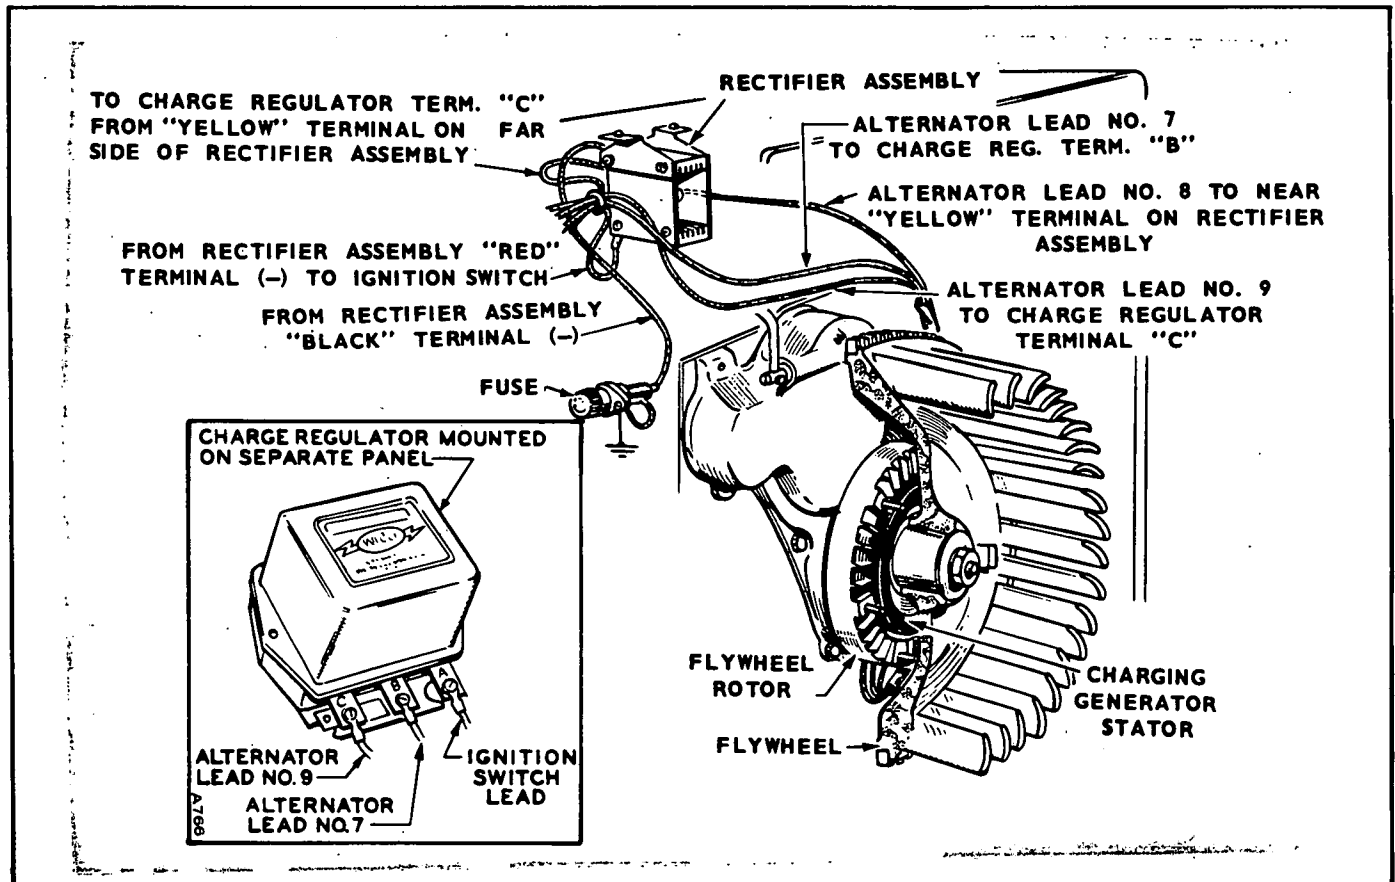

FIGURE 40. FLYWHEEL ALTERNATOR
There are four major components in the battery charging system: (1) a permanent magnet on the flywheel provides a rotating magnetic field; (2) a group of coils mounted behind the flywheel on the gear cover cut the field to produce a voltage; (3) a two-step mechanical regulator controls the AC voltage to the rectifier, and (4) a full wave rectifier converts the regulated AC to DC for battery charging. These are shown in Figure 40.